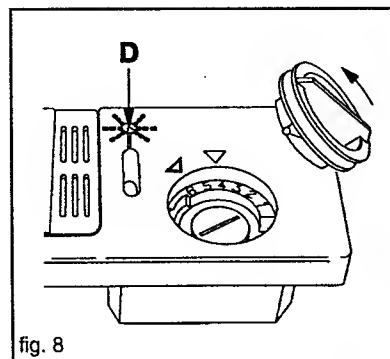

fig. 8
- Rotate the rinse-aid dispenser lid anti-clockwise by 1/4 of a turn and extract it (fig. 8)